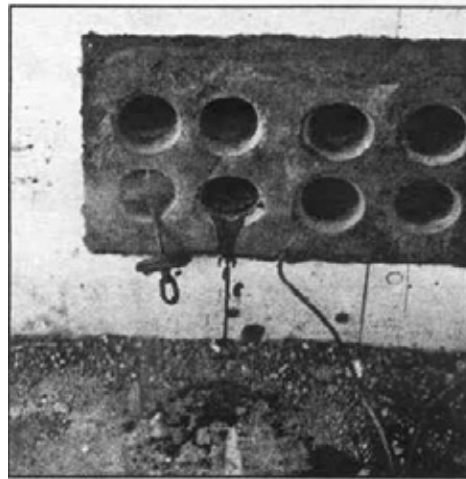

Figure 13: MISSILE ARRIVES
1. Once the missile arrives in the exit utility service access vault, close the control valve on the control valve assembly. See Figure 13